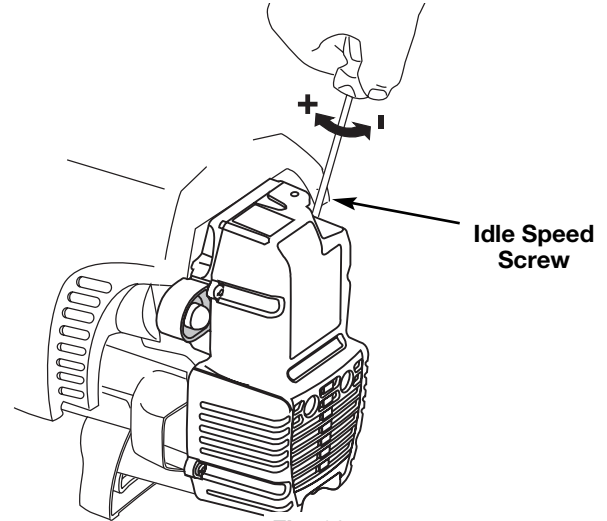

Fig. 29
The idle speed of the engine is adjustable through the air filter/muffler cover (Fig. 29).
3. Move the throttle control and let the engine idle. If the engine stops, insert a small phillips screwdriver into the hole in the air filter/muffler cover (Fig. 29). Turn the idle speed adjuster in, clockwise, 1/8 of a turn at a time (as needed) until the engine idles smoothly.